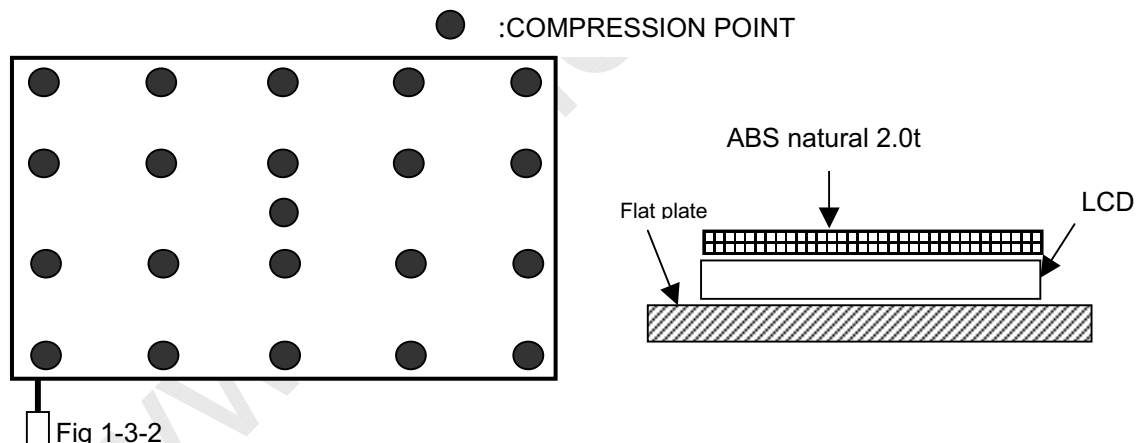

Fig 1-3-2
- (a) Compression point : 21 points ( refer to Fig 1-3-2 )